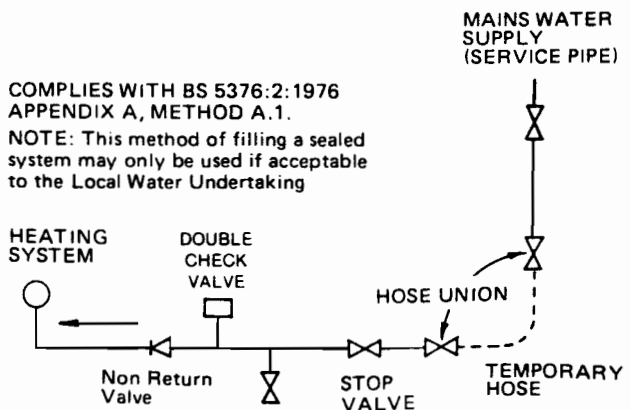

FIG. 5A MAINS TOPPING-UP METHOD
(3) **Mains Topping Up Method** (see Fig.5A)